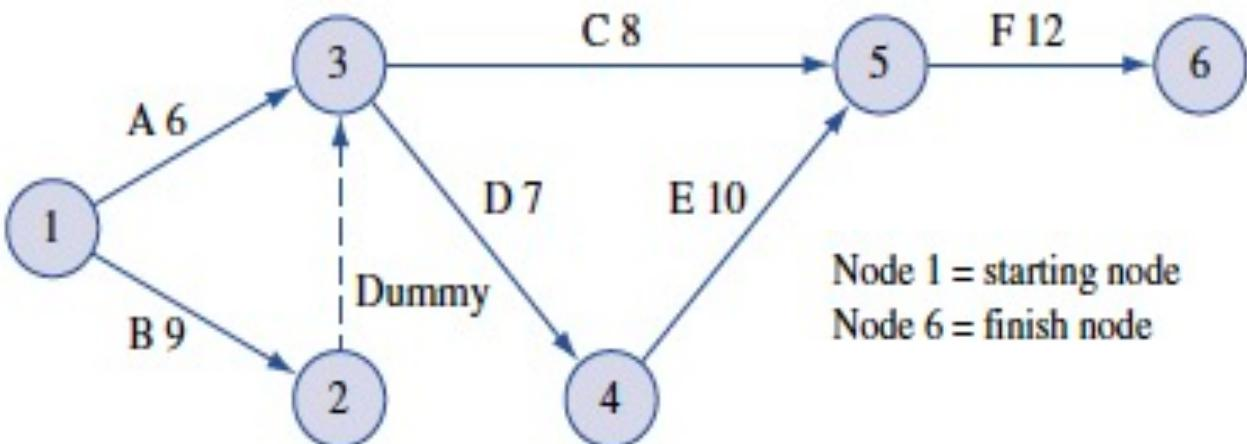

Figure 5.6 Project Diagram for Widget Co.
By using a dummy activity (indicated by a dotted arc), as in Figure 5.6, we may represent the fact that A and B are both predecessors of C. Figure 5.6 ensures that activity C cannot begin until both A and B are completed, but it does not violate rule 5.
- In Figure 5.6, activities B, D, E, F, and the dummy activity are critical activities and the path 1-2-3-4-5-6 is the critical path (it is possible for a network to have more than one critical path).